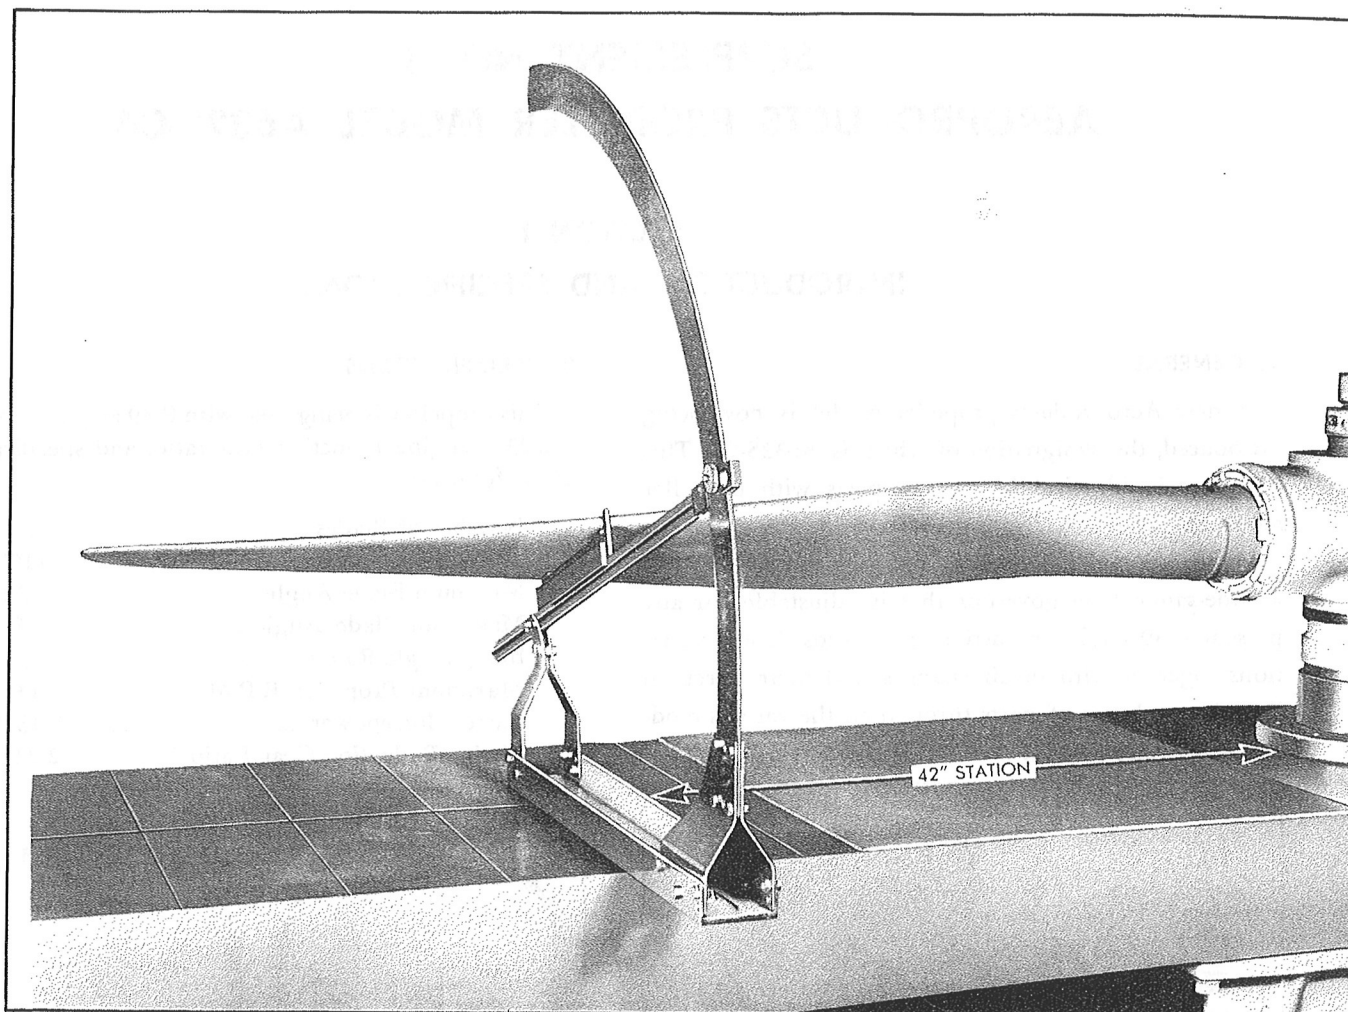

Figure 223—Checking Minimum Blade Angle
*Step 4.*—Using a blade angle protractor, measure the angle between the thrust face of the blades and the surface table at the 42" station, as shown in Figure 223.